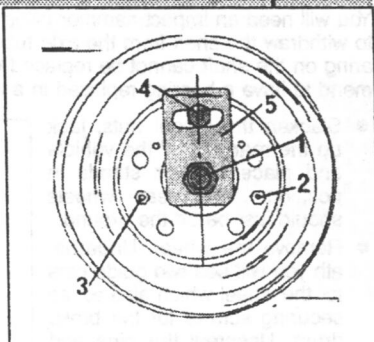
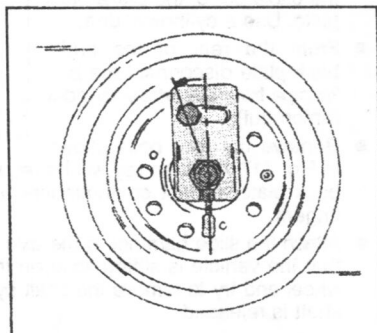
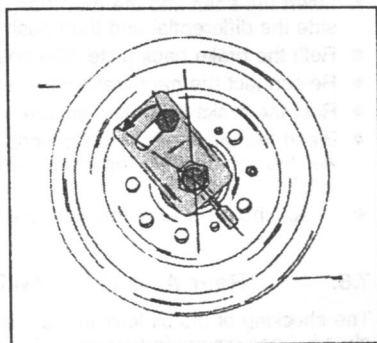

Fig. 7.14. — Fitted gauge to adjust the wheel bearing clearance.
Fig. 7.15. — Move the wheel bolt in the direction of the arrow (R.H. thread).
Fig. 7.16. — Slacken the nut (R.H. thread).
- Fit the adjusting gauge with the hexagonal opening over the wheel bearing nut and tighten it to the brake drum as shown in Fig. 7.14. One of the wheel bolts is used to fix the gauge. The bolt is not tightened fully.
- Hold the gauge in position and move the bolt (4) in Fig. 7.14 towards the left, as shown by the arrow in Fig. 7.15. Apply the handbrake.
- Slacken the wheel bearing nut by moving the gauge completely towards the left, until the elongated hole of the gauge is stopped by the bolt. This operation can be seen in Fig. 7.16. Tighten the bolt (4) in Fig. 7.14 in this position to 1.0 kgm (7.2 ft.lb.). If the gauge is not used, you will see from the illustration how far the nut is released.
- Hold the gauge in position and move the bolt (4) in Fig. 7.14 and with it the brake drum towards the right, i.e. not as shown in Fig. 7.15, but to the other side. Apply the handbrake.
- Slacken the nut by moving the gauge to the opposite side shown in Fig. 7.16.